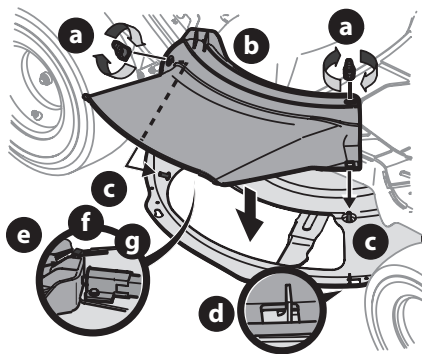

Figure 11
1. Remove the wing knobs (a) installed on the mowing deck and retain for later installation (Figure 11).
2. Install the deck chute (b) into the deck discharge opening on the deck. The rear of the chute (b) should be under the tab (f) on the rear deck bracket (g). The studs (c) on the deck surface will fit through the holes on the upper portion of the deck chute (b). The small tab (d) on the deck lip area will fit through the square cutout on the lower portion of the deck chute (b) (Figure 11).
NOTE: Make certain that the upper-rear portion of deck chute (b) is depressing the safety switch (e) located on the deck surface and under the tab (f) on the rear deck bracket (g). The engine will not start without the deck chute (b) properly in place (Figure 11).
3. Secure the deck chute (b) by tightening the wing knobs (a) removed in Step 1 (Figure 11).